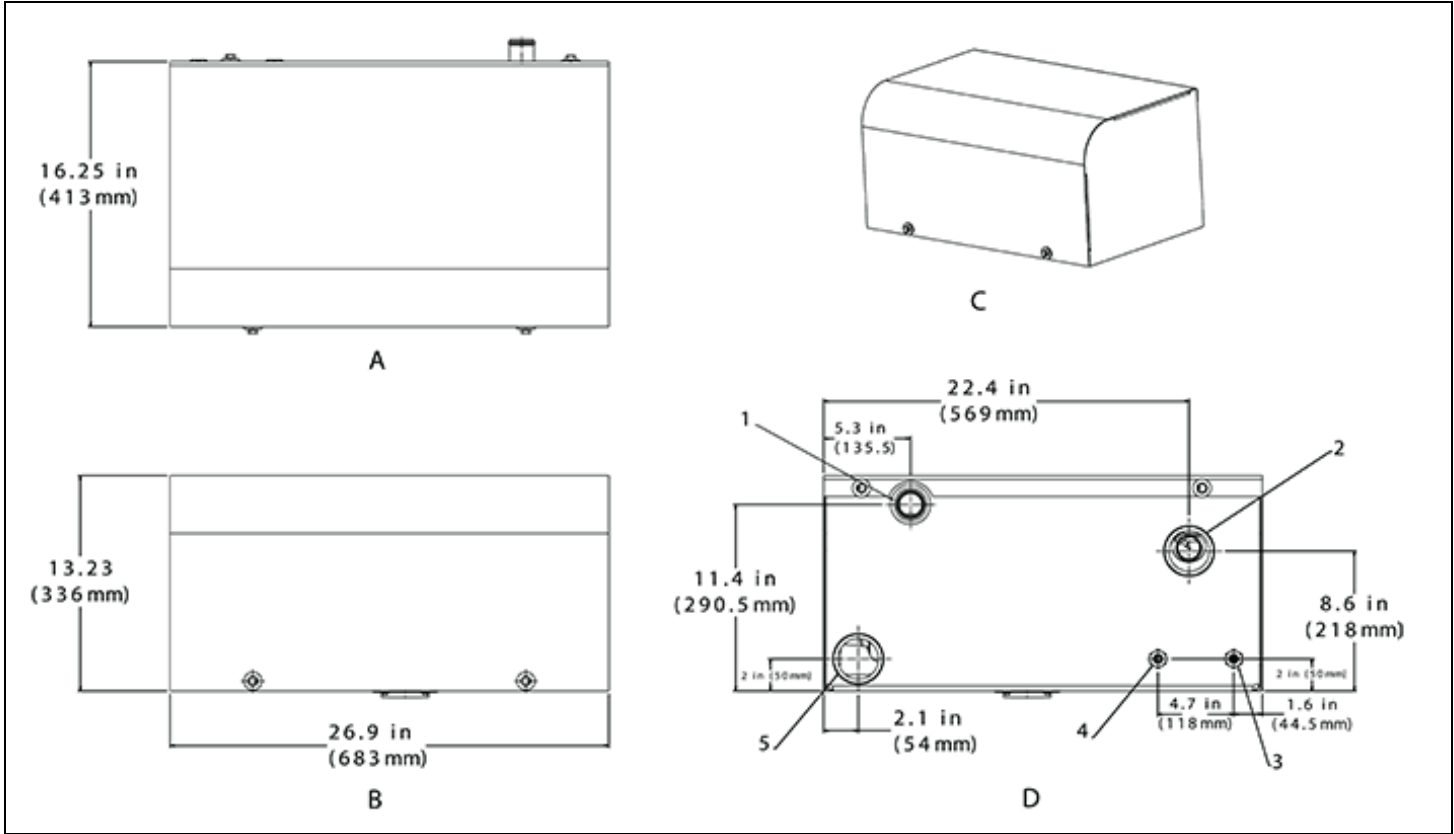

Fig 302: Thermo E+ 320 enclosure Box Dimensions
1. Drill all required holes to dimensions shown in figure 302. A minimum of 4 mounting holes are required.